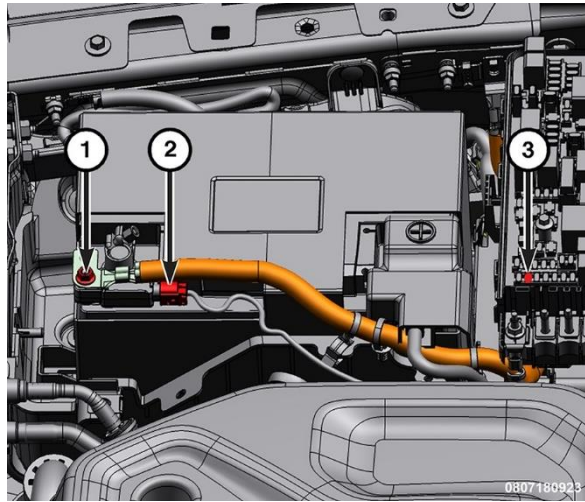

**Figure 45 – Negative Battery Cable, Fuse F09 and IBS Connector**
63. Remove the cover, connect the negative battery cable to the IBS and tighten the fastener (1) to 10N·m (7 ft. lbs.) (Figure 45).
64. Install the F09 (5 amp) IDCM fuse (3) in the Power Distribution Center (PDC) (Figure 45).
65. Connect the IBS harness connector (2) (Figure 45).